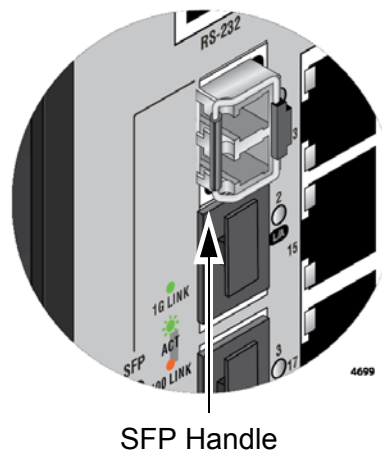

Figure 32. Verifying the Position of the SFP Handle
5. Verify the handle on the transceiver is turned to the left. Refer to Figure 32.